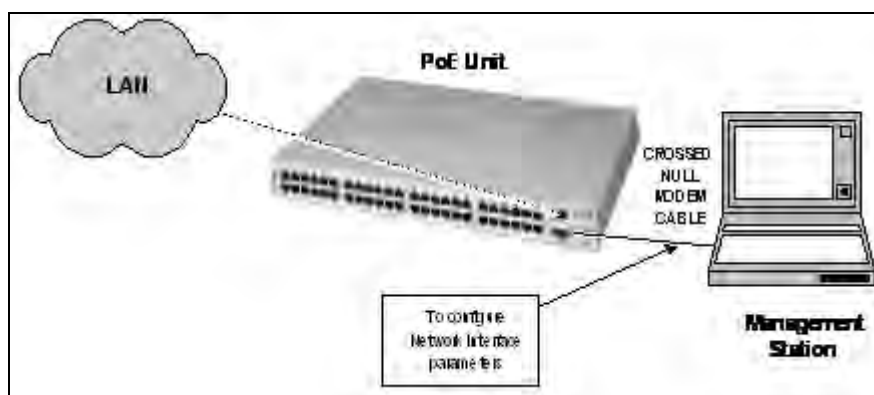

Figure 3-1: Connecting the PoE Unit
3. Configure the units (refer to Figure 3-1):